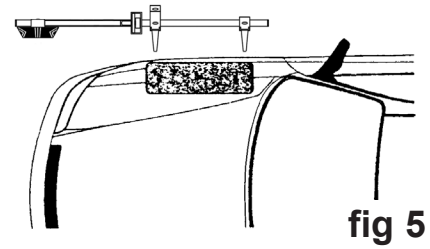

fig 5
4.1.2 Position the laser unit against the offside front wheel (fig 5) and adjust the height of the contact bars by fixing them in whichever of the five preset positions is closest to a horizontal line through the centre of the wheel. At the same time adjust the side to side positioning of the contact bars so that they touch the sidewall of the tyre either side of the rim. Position the tips of the contact bars to touch the centre of the sidewalls at the greatest point of curvature. Avoid any ribs or raised lettering on the tyre side wall. You may also use the wheel rim on larger diameter wheels, avoiding any balance weights, dents etc..